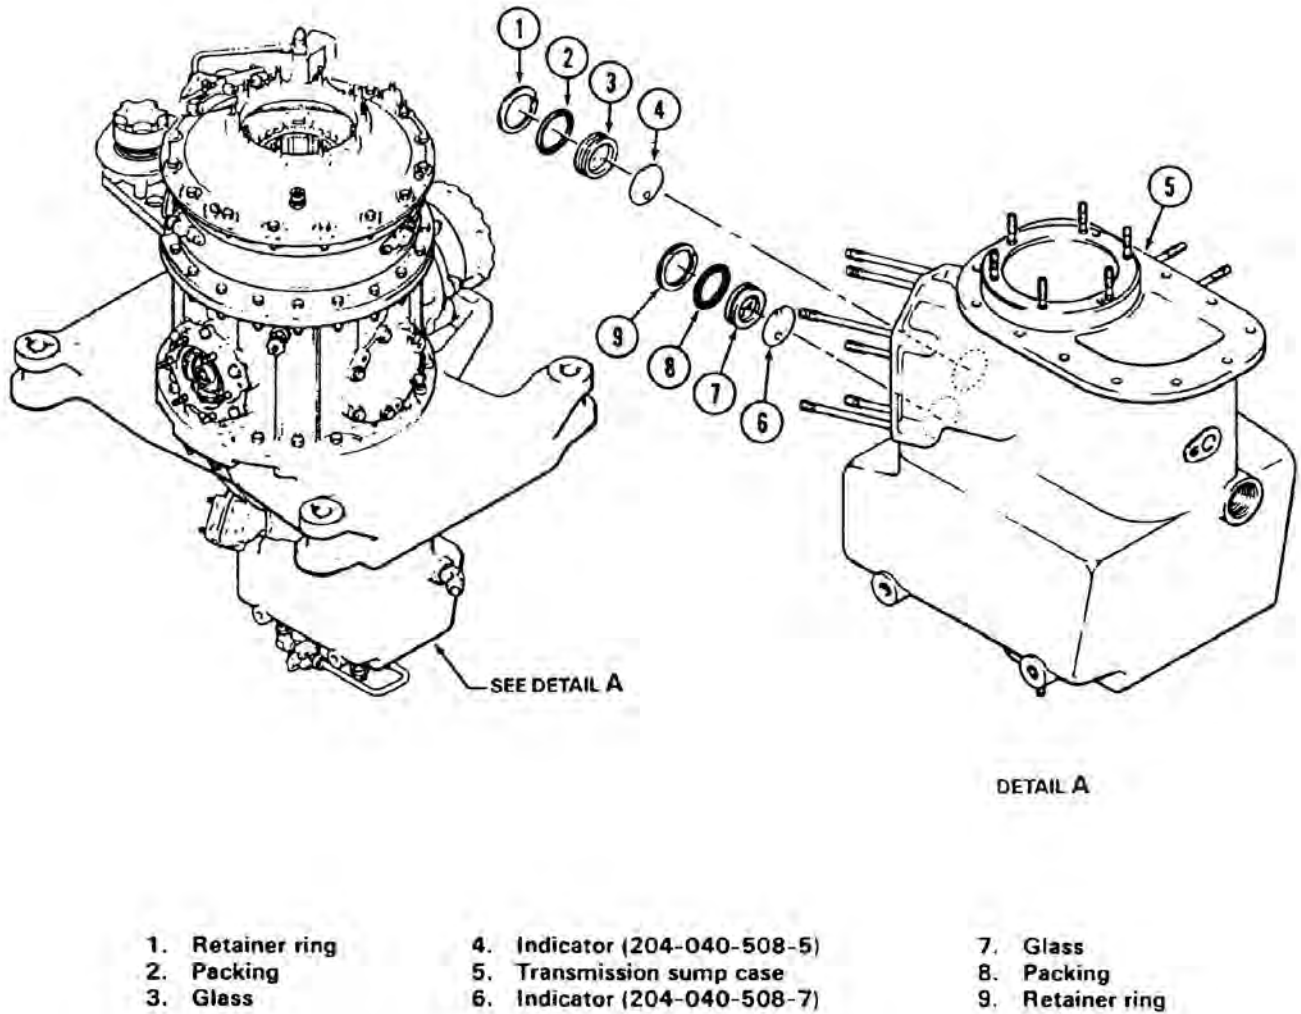

Figure 63-41. Transmission Sight Glass
The following maintenance procedures are detailed for indicator (4, Figure 63-41). Maintenance procedures for indicator (6) are similar.
63.5.24.3.1 Inspect glass (3, Figure 63-41) for cracks, crazing, and stains which would prevent an accurate determination of oil level. If any of these conditions are present, replace glass.
63.5.24.4.1 Lubricate new packing (2, Figure 63-41) with transmission oil (Chapter 12).